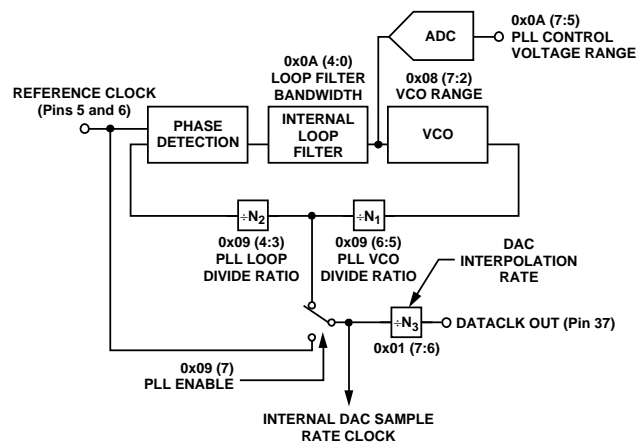

Figure 71. Internal Clock Architecture
The internal clock architecture is shown in Figure 71. The reference clock is the differential clock at Pins 5 and 6. This clock input can be run differentially or singled-ended by driving Pin 5 with a clock signal and biasing Pin 6 to the midswing point of the signal at Pin 5. The clock architecture can be run in the following configurations:
1. PLL Enabled (Reg. 0x09, Bit 7 = 1). The PLL enable switch shown in Figure 71 is connected to the junction of the N1 dividers (PLL VCO divide ratio) and N2 dividers (PLL loop divide ratio). Divider N3 determines the interpo-
2. PLL Disabled (Reg. 0x09, Bit 7 = 0). The PLL enable switch shown in Figure 71 is connected to the reference clock input. The differential reference clock input is the same as the DAC output sample rate. N3 determines the interpolation rate.